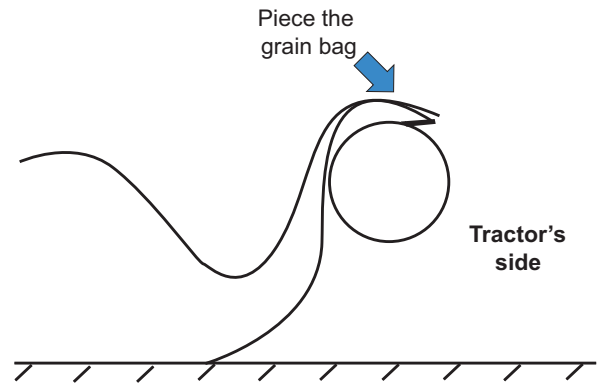

Figure 5.14 – Bag Perforation
- 3) Pierce both sides of the end of the grain bag with each of the roll teeth, as shown in figure 5.14.